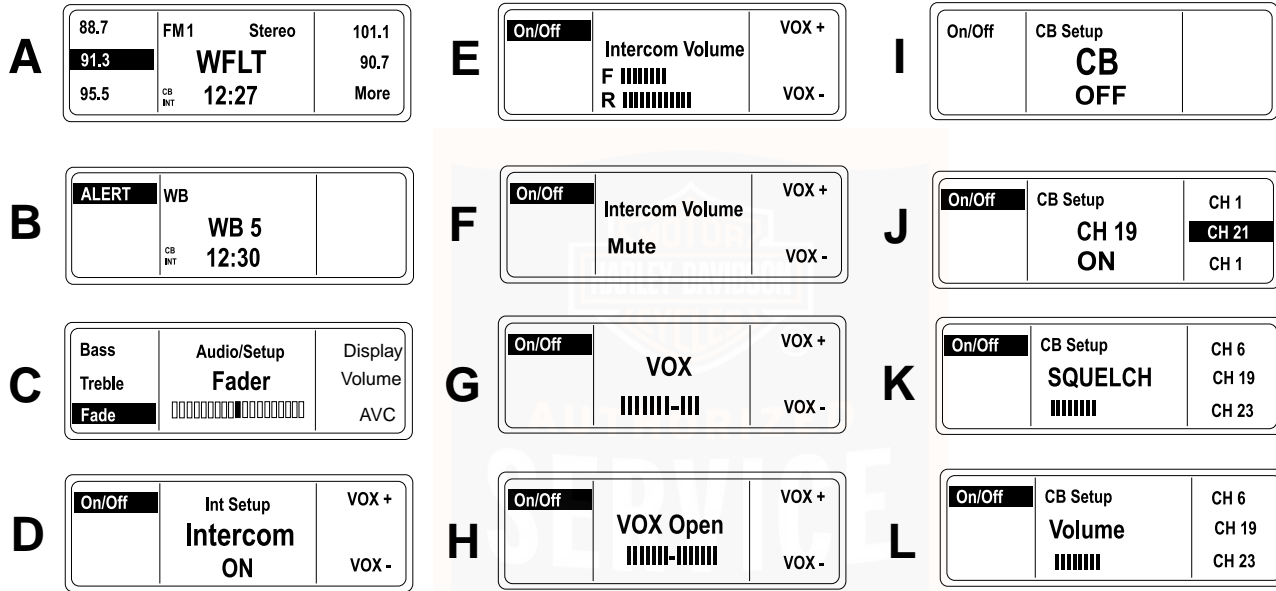

Figure 34. Display Examples
See D in Figure 34. To activate the intercom (INT) and the VOX microphones, press soft key **1** to turn the intercom ON.
See G in Figure 34. Press the **MODE SEL** switch **UP** or **DN** or press the **4** or **5** soft key to initiate the VOX display. The LCD displays VOX sensitivity as a bar graph with a smaller bar to indicate the center of the 14 bars. A higher number of bars indicates greater sensitivity while a lower number means less sensitivity.
See E in Figure 34. Enter Intercom Setup, speak into microphone and adjust the intercom volume with the **AUDIO** switch on the left hand grip. Press **AUDIO +** to raise the volume and **AUDIO -** to lower the volume. The LCD displays a dashed line that changes length with the level.
See F in Figure 34. When the headset volume has been adjusted to the bottom of its range, Mute will appear in the volume display.
See H and I in Figure 34. To activate the Citizen Band transceiver, press and release the **COM** pushbutton on the front panel. Press soft key **1** to turn the CB ON/OFF. The CB will activate in CB Setup with squelch threshold and channel settings from the previous use. CB channels are selected in CB Setup.
See J in Figure 34. With the CB on, press **COM** to enter CB Setup. The LCD displays CB SETUP in the upper half and the CB channel appears in the lower half.
See K in Figure 34. When squelch is broken, the CB in the display inverts. If the squelch is not broken and the another source is playing, CB is displayed.
See J in Figure 34. Up to 3 CB channels can be preset. Press and hold a soft key (4, 5, 6) to preset a CB channel.
See K in Figure 34. The CB signal is passed to the speakers or headsets only if signal strength exceeds the threshold set with the squelch control switch (**PTT/+SQ/-**). When CB signals exceed the threshold, they are said to "break squelch." Refer to Table 24.
Refer to Table 25. See L in Figure 34. To adjust volume of the CB in the speakers or headset, Press **AUDIO +** to raise the volume or **-** to lower the volume. CB volume is adjustable when squelch is broken or when the display is in CB Setup.